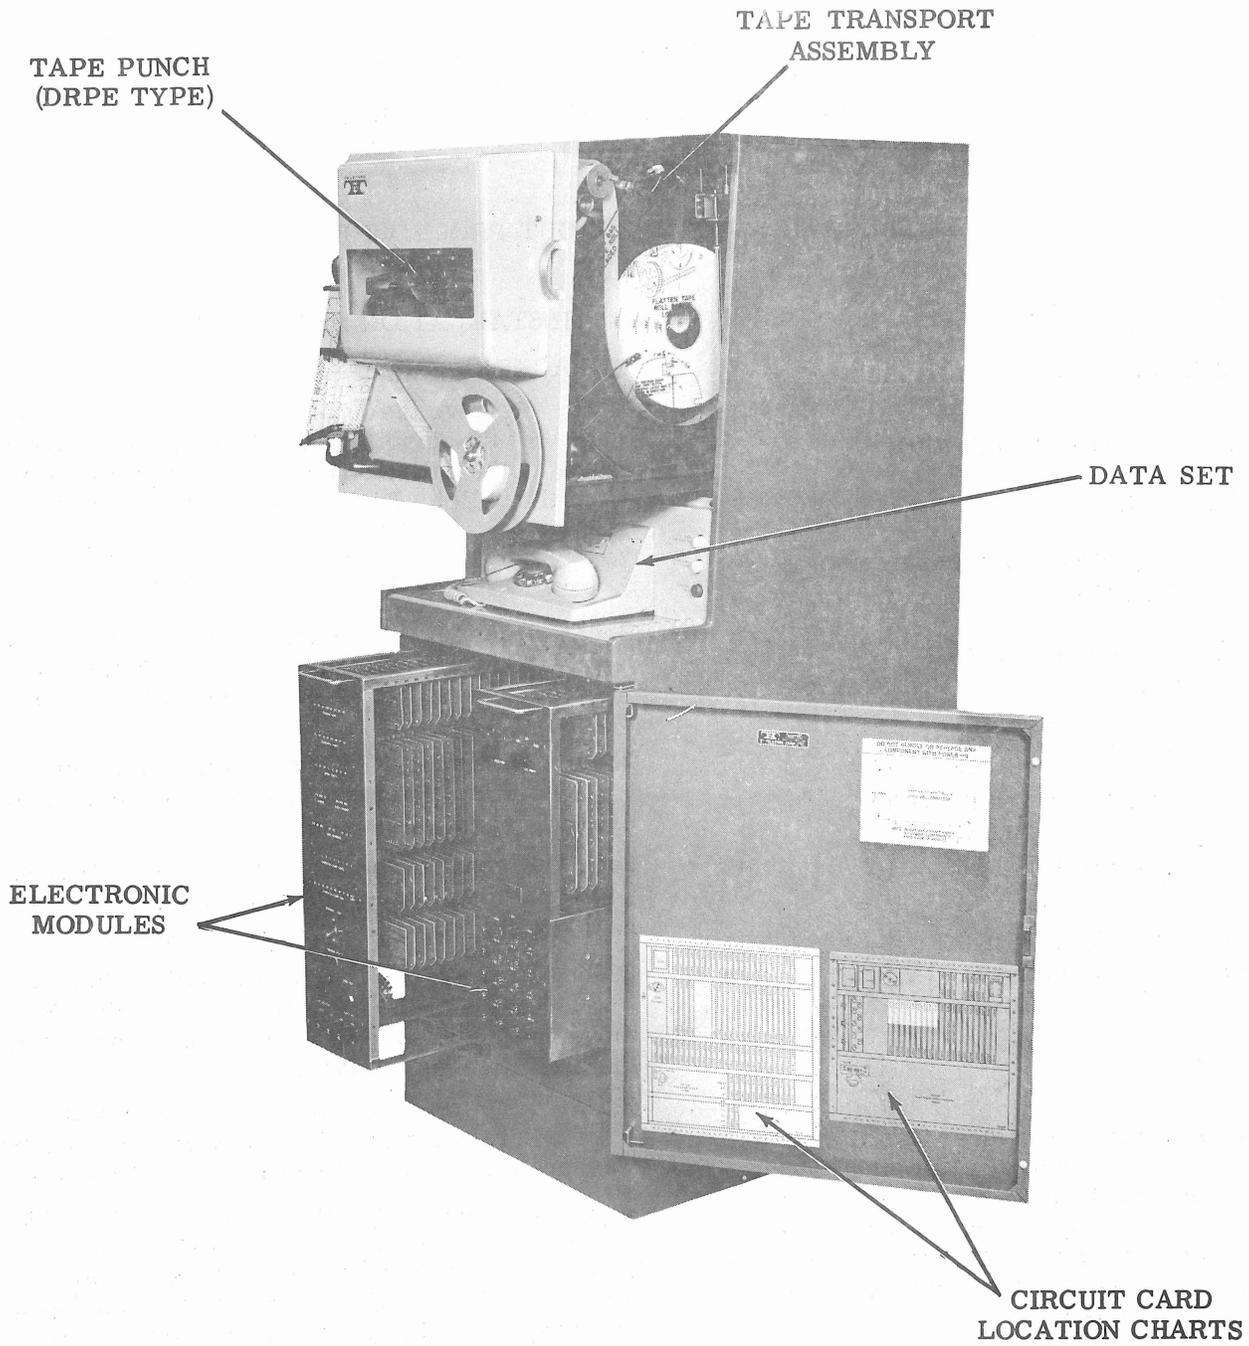

Figure 1 - Tape Receiver 4B
1.01 This section provides installation and checkout information for the "DATA-SPEED" Tape Receiver 4B (Figure 1). It is re-issued to include engineering changes, to add interface information wiring field and test tape drawings. Arrows in the margins indicate changes or additions.